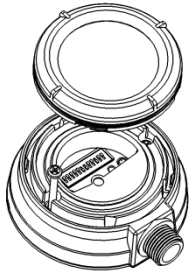
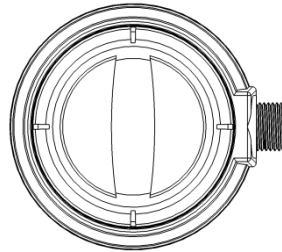

Figure 1 – Lens installation
Figure 3 – Aisle lens installed 90°
3. Attach sensor to fixture or electrical box using the (2) 8-32 x 1.25 mounting screws provided. Mounting holes should be 2.75" on center (See enclosed mounting diagram template).
5. Attach sensor lens to sensor module and rotate clockwise approximately five degrees to lock into place (See Figure 1). Lens may be installed on sensor module rotated ninety degrees (See Figures 3 and 4).
8. Attach sensor lens to sensor module and rotate clockwise approximately five degrees to lock into place (See Figure 1). Lens may be installed on sensor module rotated ninety degrees (See Figures 3 and 4).
1. To attach lens: Place lens assembly flush onto sensor module and rotate clockwise approximately five degrees to lock into place (see Figure 1.) Lens may be installed on sensor module rotated ninety degrees (See Figures 3 and 4.)
4. Re-install sensor lens to sensor module and rotate clockwise approximately five degrees to lock into place (See Figure 1). Lens may be installed on sensor module rotated ninety degrees (See Figures 3 and 4).